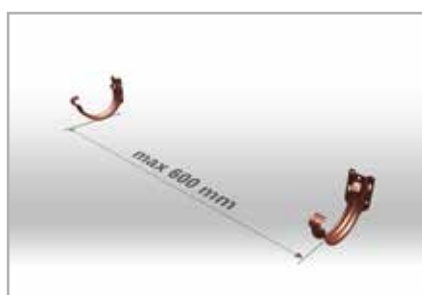

Fig. 2
- 1.7 Recommended bracket spacing is 60 cm **(Fig. 2)**